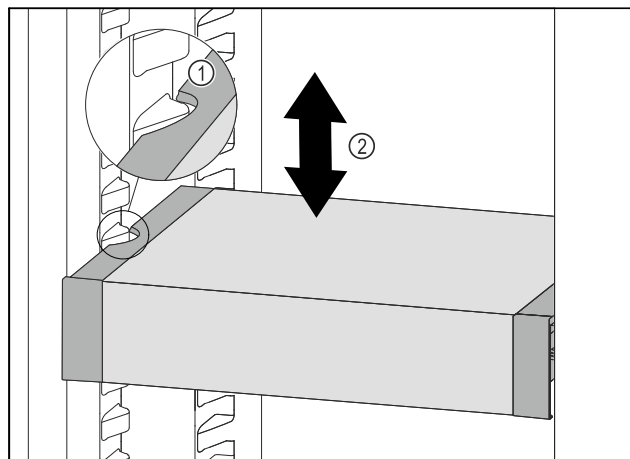

Fig. 180
- ▶ Pull VarioSafe forwards until the recesses in the side of the VarioSafe are at the level of the support rib in the refrigerator compartment. Fig. 180 (1)
- ▶ Move VarioSafe up or down in the refrigerator compartment until the desired height is reached. Fig. 180 (2)